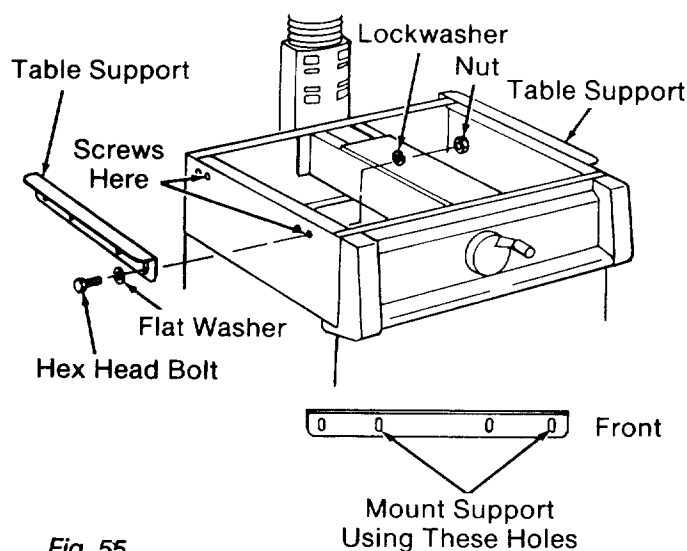

Fig. 55
3. Attach a *table support* to each side of the *saw* using the four hex head bolts and flat washers. (Figure 55 & 55A) Put the bolts through the center of the enlarged holes in the *table supports* so that the *supports* may slide up or down as needed.